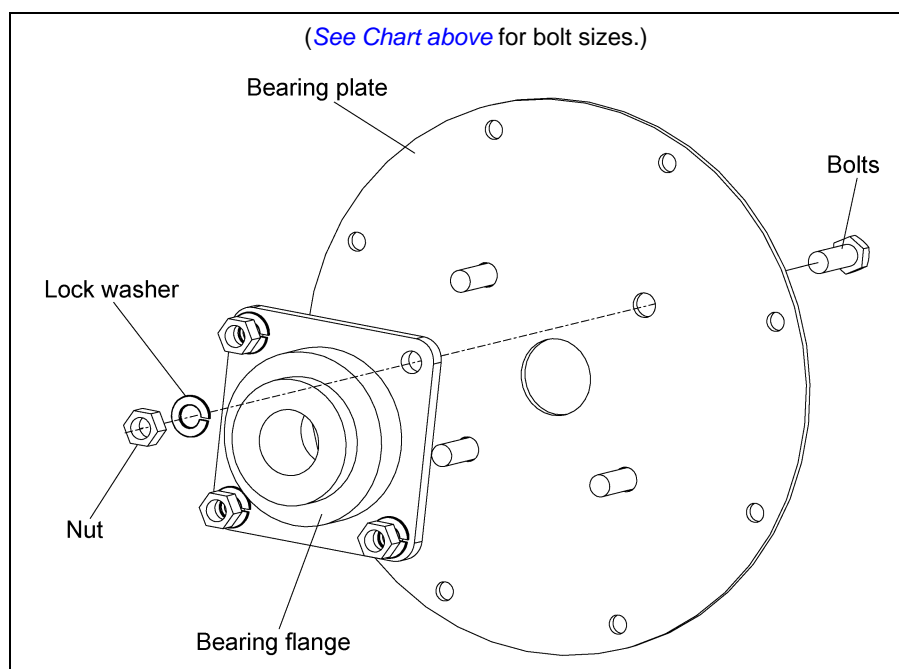

Figure 4H
- Secure bearing to bearing plate using appropriate bolts, lock washers, and nuts. (*See Chart below* and *See Figure 4H.*)